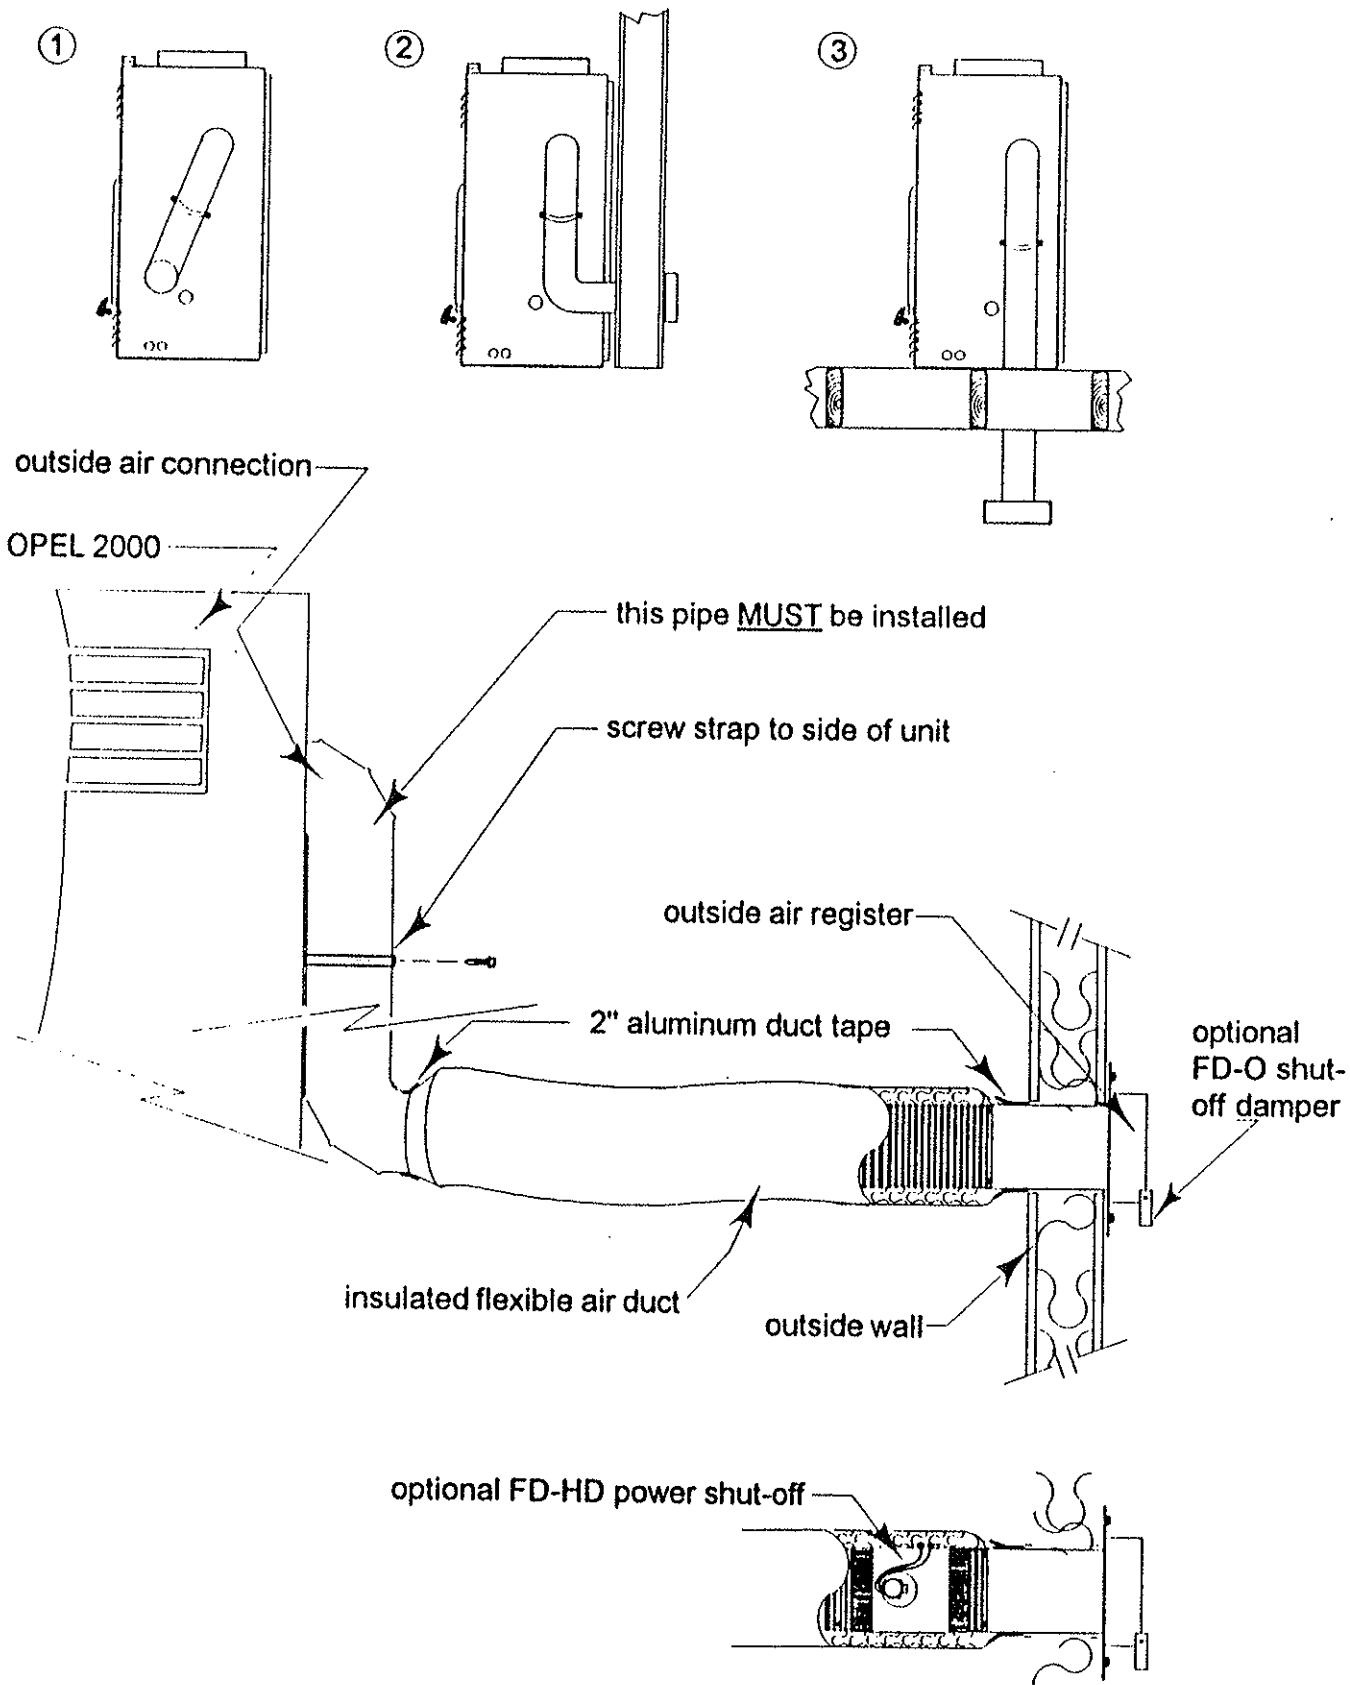

Figure 5: Outside air connection and installation options
2. Attach the two supplied 5 1/4" dia. elbows to the 15" long pipe. Attach these pieces to the fireplace as shown in Figure 5. There is a metal strap attached to the 15" pipe. Screw both ends of the strap to the side of the firebox